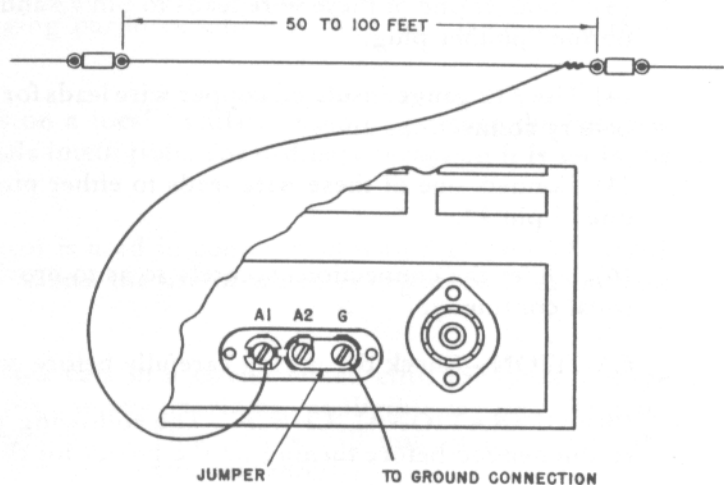

Figure 3. Single Wire Antenna Installation.
A. *Single Wire Antenna.*—When using a single wire antenna installation, connect a jumper between the antenna terminal A2 and G. Then connect a single wire of about 50 to 75 feet (including lead-in) to terminal A1. Use #14 gauge copper wire or heavier for best results. Erect the antenna as high and free from surrounding objects as possible. This type of antenna works well where the signal to noise ratio is relatively high and a more elaborate installation is not practical. Refer to Fig. 3.
(1) To determine the proper length of the doublet antenna in feet: